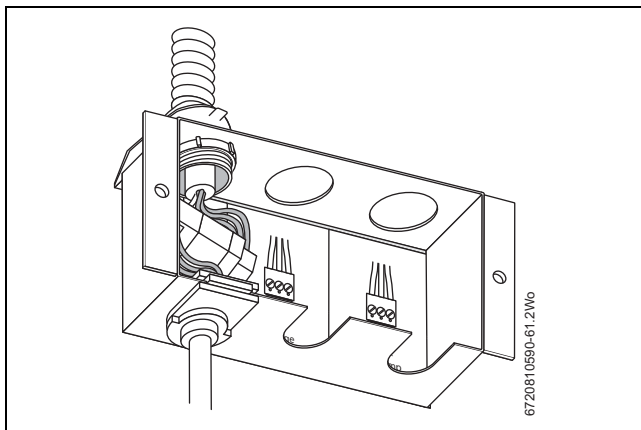

Fig. 49 Cable connected (mains power supply)
- Insert cable into the junction box as shown in Fig. 49.